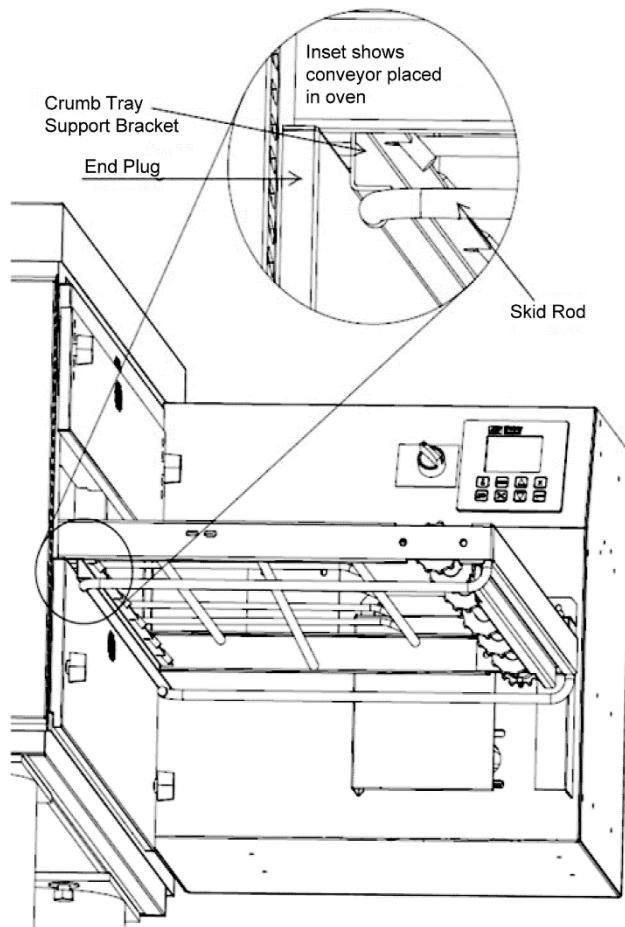

Figure 21. Secure Conveyor Frame
2. Continue moving the conveyor into the oven until the frame protrudes equally from each end of the oven. Check that the crumb tray supports located on the underside of the conveyor frame rest firmly against the lower end plugs, as shown in Figure 21.